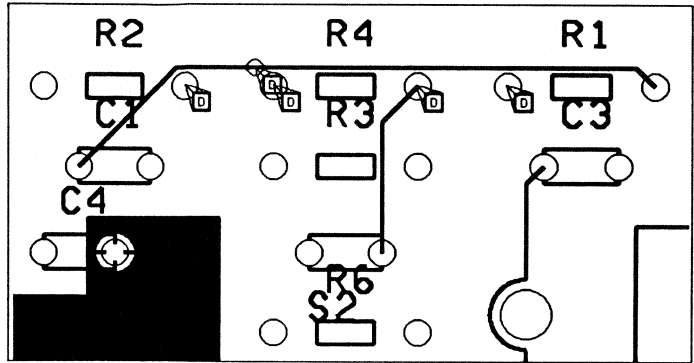

Figure 7-6. DRC markers indicating violations.
6. Select **OK**. DRC markers display, pointing to the violated objects. See figure 7-6.